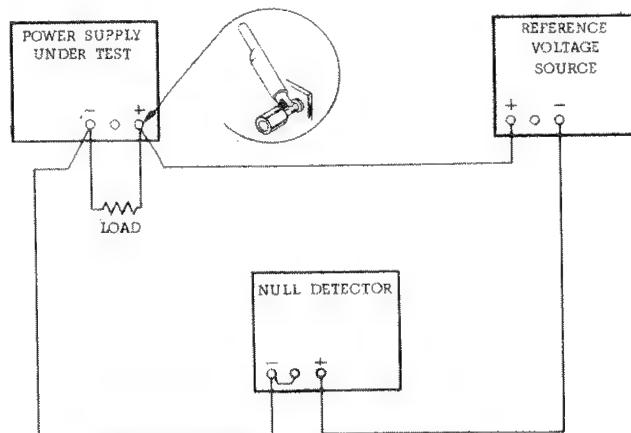

Figure 5-3. Differential Voltmeter Substitute Test Setup
A satisfactory substitute for a differential voltmeter is to arrange a reference voltage source and null detector as shown in Figure 5-3. The reference voltage source is adjusted so that the voltage difference between the supply being measured and the reference voltage will have the required resolution for the measurement being made. The voltage difference will be a function of the null detector that is used. Examples of satisfactory null detectors are: ~~④~~ 419 A null detector, a DC coupled oscilloscope utilizing differential input, or a 50 mv meter movement with a 100 division scale. For the latter, a 2 mv change in voltage will result in a meter deflection of four divisions.